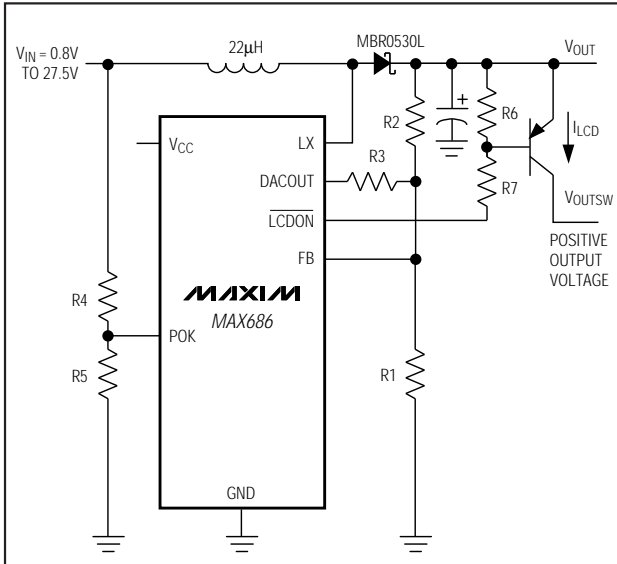

Figure 6. Using the POK for Input Voltage Monitoring
POK is the input to the power-OK comparator. The comparator drives an internal N-channel MOSFET. The MOSFET's open-drain output, LCDON, can drive an external PNP transistor or P-channel MOSFET, switching a positive V_{OUT} to the LCD (Figures 6 and 7). When the voltage at POK exceeds 1.125V (power OK), LCDON goes low, turning on the external PNP transistor. When the voltage at POK drops below 1.125V (power not OK), the external PNP transistor turns off, cutting off power to the LCD display. This feature ensures that the LCD display is not damaged due to improper voltage levels. During shutdown or undervoltage lockout, LCDON is high impedance.
When the voltage at POK is greater than 1.125V (typical), the open-drain LCDON output pulls low. LCDON can withstand up to 27.5V to control an external PNP transistor to switch on the MAX686's positive output (Figures 6 and 7). A PFET can also be used, but a resistor-divider must be used in conjunction with it, so that the PFET does not exceed its V_{GS} rating. Three useful applications of this feature are as follows:
- An input-sensing cutoff for positive outputs. Connect POK to a voltage divider to sense the input voltage. The output switches on only when the input reaches the set level (Figure 6).
For input voltage sensing, a resistor-divider (R_4 - R_5 , Figure 6) from V_{IN} to POK controls the open-drain output LCDON, which pulls low when $V_{POK} > 1.125V$. Choose $R_5 = 100k\Omega$. For example, if the minimum battery voltage is 5.3V, then determine R_4 as follows: